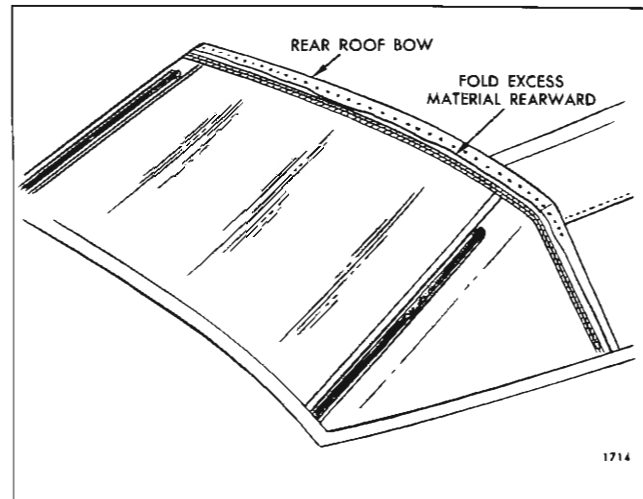

Fig. 2-I-46—Back Curtain Installation at Rear Roof Bow
14. Where required, place reference chalk mark on outer surface of back curtain along pinchweld finishing molding. Re-adjust back curtain assembly as required, (Fig. 2I47).